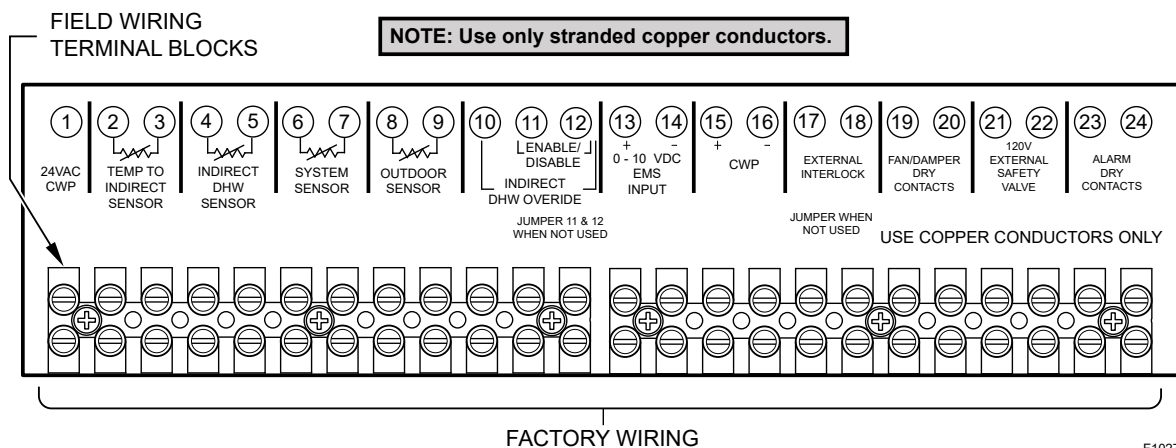

Figure 28. Low-Voltage Field Wiring
- To enable this remote control function, set DIP switch 5 to the UP position on the PIM. DIP switch 5 Toggles between an EMS (UP) signal or a demand signal from the VERSA (DOWN). DIP switch 2 on the PIM toggles between a Direct Drive (UP) input and a Target Temperature (DOWN) setpoint.
- Connect an Energy Management system or other auxiliary control signal to the terminals marked 0-10V (+/-) on the field wiring terminals. See **Figure 28**. Caution should be used to ensure that the +0-10V connection does not create a short to ground.
Connect the Enable/Disable (terminals 11, 12) wiring to the field wiring terminals as shown in **Figure 28** and in place of the factory-installed jumper. Alternately, any dry contact closure (including a remote thermostat) across these terminals will enable the heater to run.
- When using a System Sensor (S3), connect the sensor wires to the terminals marked (6, 7) SYSTEM SENSOR. See **Figure 28**.
1. If using an Outdoor Sensor, connect the sensor wires to the terminals (8 and 9) marked OUTDOOR SENSOR. See **Figure 28**.
Connect the indirect tank sensor to the terminals (4 and 5) marked INDIRECT DHW SENSOR. See **Figure 28**. Caution should be used to ensure neither of these terminals becomes connected to ground. When using an indirect DHW Sensor to control tank temperature, contact closure is required across the indirect override connections for proper operation.
2. Connect the system supply sensor to terminals 6 and 7 on the field wiring strip located on the Master heater. See **Figure 28**.
3. Connect the Outdoor sensor (if used) to terminals 8 and 9 on the field wiring strip located on the Master heater. See **Figure 28**.
4. Connect the Enable/Disable wiring to terminals 11 and 12 on the field wiring strip located on the Master heater. This connection must be provided through dry contacts closure. See **Figure 28**. Applying 24VAC to these terminals will result in blowing the fuse on PIM.
The alarm contacts are 3A rated dry contacts on a normally-open relay that close during fault or lockout conditions, and the maximum voltage across the contacts is 30 VAC or 30 VDC. See the Field Wiring as shown in **Figure 28**.